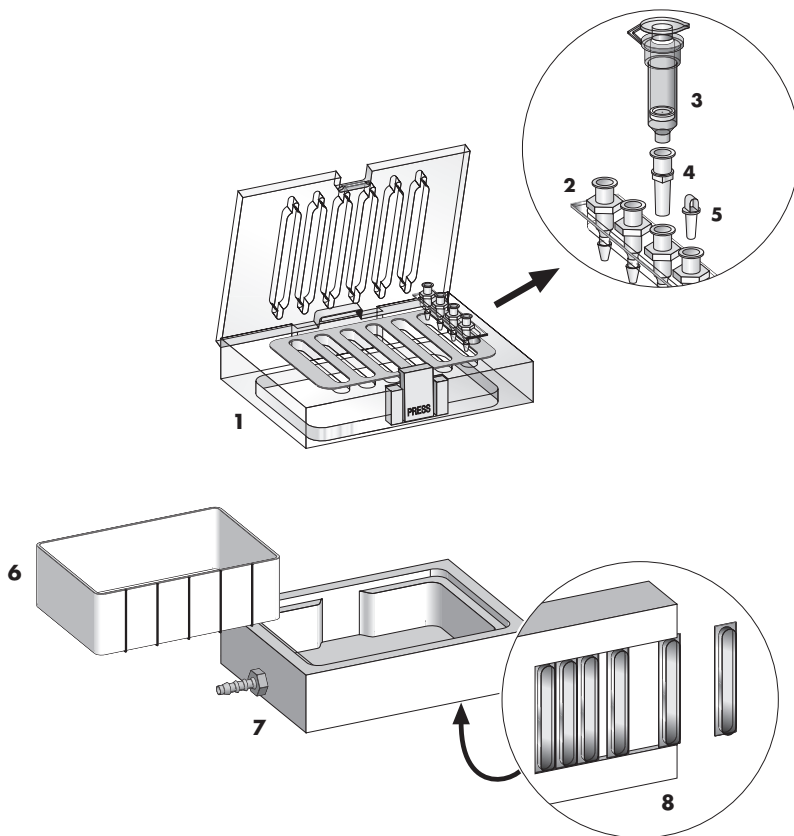

Figure 2. Exploded diagram of QIAvac 6S manifold and components.
For processing QIAamp Mini Spin Columns on the QIAvac 6S, set up the manifold as follows (see also Figure 2):
- Use the blanks provided to close unused slots of the QIAvac 6S. Blanks are stored in the underside of the QIAvac base plate when not in use (Figure 2, page 22). Do not store blanks in slots of the QIAvac 6S top plate as this can cause deformation of the gasket.